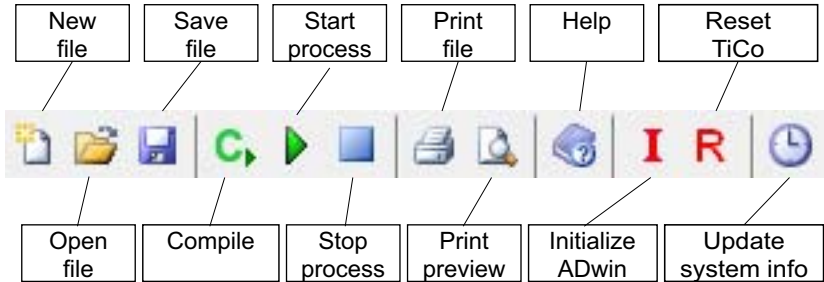

Fig. 3 – The tool bar
- The tool bar and the editor bar (see fig. 3).